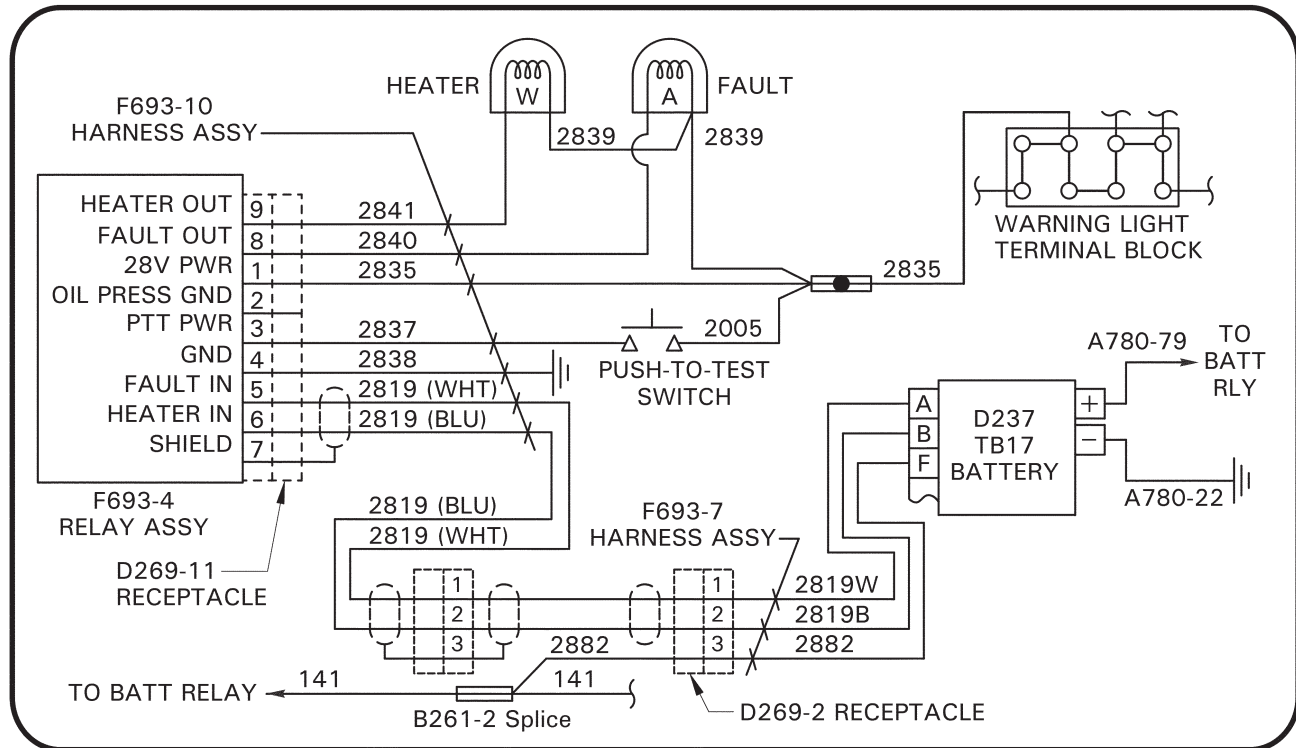

FIGURE 3
10. Refer to Figure 3. Connect F693-4 relay assembly to F693-10 harness assembly (D269-11 receptacle). Secure plugs using MS3367-4-9 ty-rap. Secure relay and harness assembly along airframe harness using appropriately sized ty-raps. Cinch ty-rap until snug without over tightening, and trim tip flush with head.
18. Refer to Figures 3 & 4. Open circuit breaker compartment and locate wire (-141), cutting ty-raps as required. Splice wire (-2882) from F693-10 harness assembly to wire (-141) using B261-2 splice as shown; verify security. Close circuit breaker panel.
19. Install D144-9 support assembly using retained hardware. Install A785-7 hose to A372-1 tube using (1) B277-12 clamp.